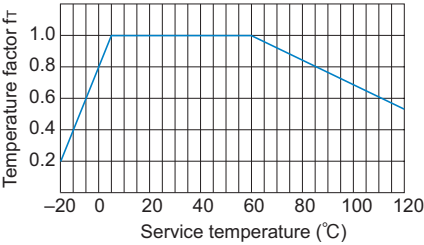

Fig.2 Temperature Factor
If the temperature of the change nut exceeds the normal temperature range, the seizure resistance of the nut and the strength of the material will decrease. Therefore, it is necessary to multiply the dynamic permissible torque (T) and the dynamic permissible thrust (F) by the corresponding temperature factor indicated in Fig.2.
- f_r : Temperature factor (see Fig.2)
- F : Dynamic permissible thrust (N)
- P_f : Axial load (N)